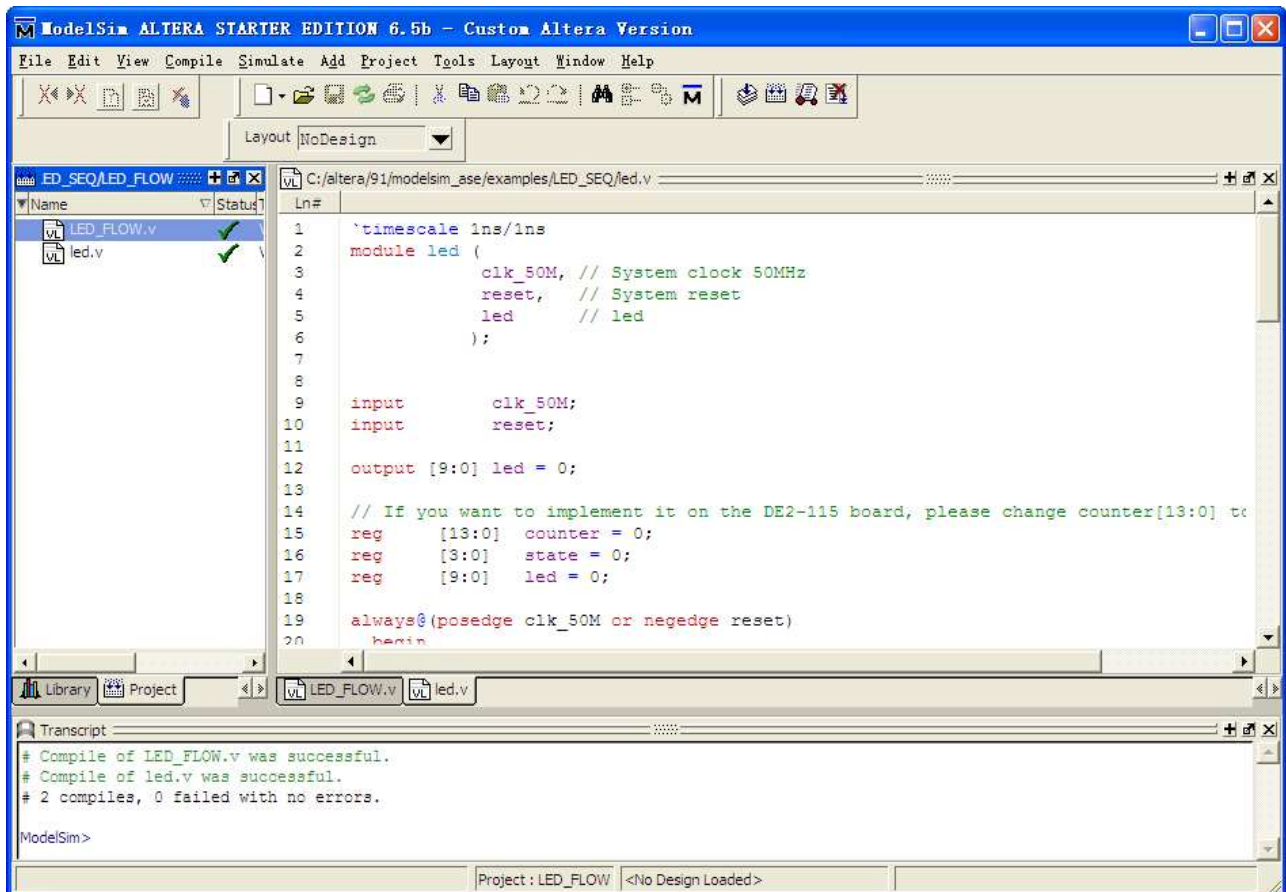

Figure 2.16 Compile successful
1. If there is no error, the compile successful information (pointed by the red arrow), shown in Figure 2.16, will appear in the Transcript window.